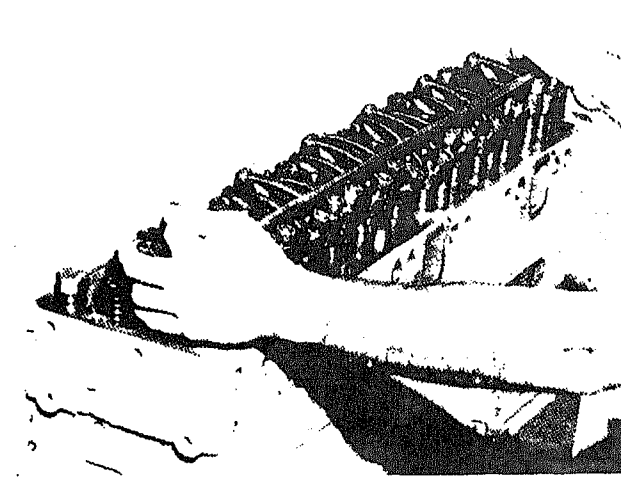

Fig. 0-33. Removing rocker lever assembly
4. Using a bar or wooden slat to hold levers in position, lift rocker lever assembly from engine, Fig. 0-33.